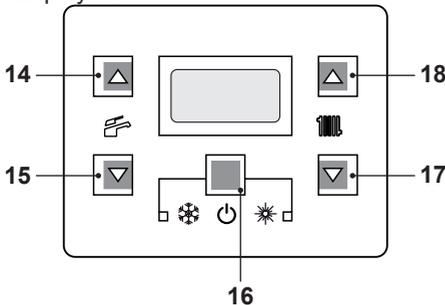

Fig. 7.11
- Press the 16 key for 2 seconds until both  and  symbols appear on the display Fig. 7.11.
- Switch off the boiler by pressing the 16 (Fig. 7.11) key for 2 seconds until the  symbol appears on the LCD display (Fig. 7.10).
- Press the 16 key for 2 seconds until both  and  symbols appear on the display Fig. 7.11. The LCD display displays the boiler temperature (primary circuit) and the  and  symbols; the $^{\circ}\text{C}$ symbol slowly flashes Fig. 7.12.
Press the reset key on the boiler control panel 16 (Fig. 7.11) to reset its functioning.